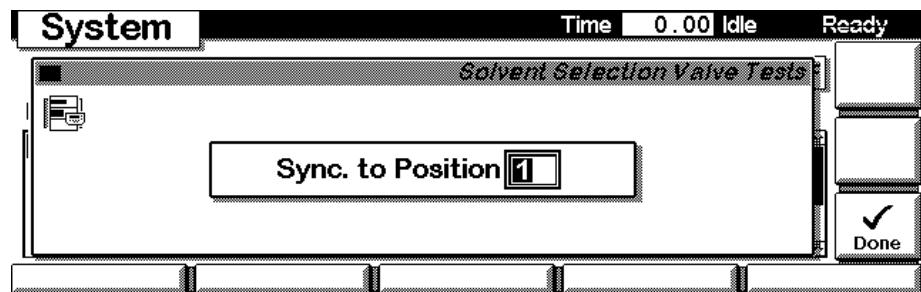

Figure 7 Valve Synchronization
- 2 Select **Tests (F3)** and **Valve** to open the Synchronization screen as displayed in Figure 7.